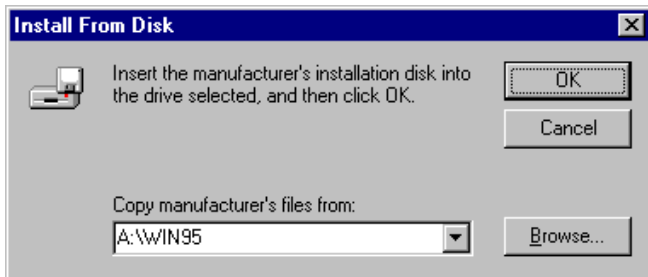

Figure 3-6.
7. Once in this directory, the file TRIDENT.INF will appear under file name list. SELECT OK” to return to the Install From Disk” window (see Figure 3-6). Under the statement Copy manufacturer files from” , the line X:\WIN95 should appear. SELECT OK” to start installing the driver files from the diskette drive(or DISC).